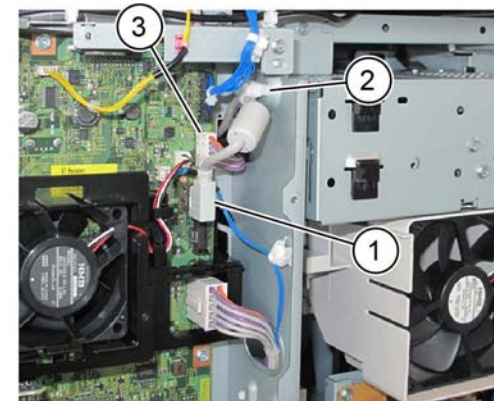

Figure 7 USB cable
10. Disconnect the connection between the connector and the USB Cable, Figure 7:
- Disconnect the USB cable (1).
- Release the USB cable clamp (2).
- Disconnect the connector (3).